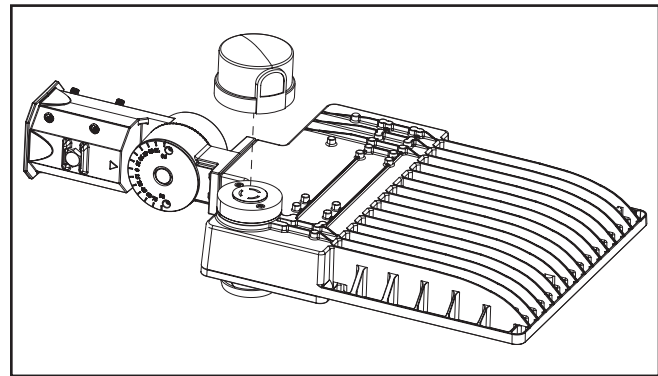

Figure 11.
1. Insert provided photocontrol (or shorting cap) into the receptacle and twist into locked position. (Figure 11.)